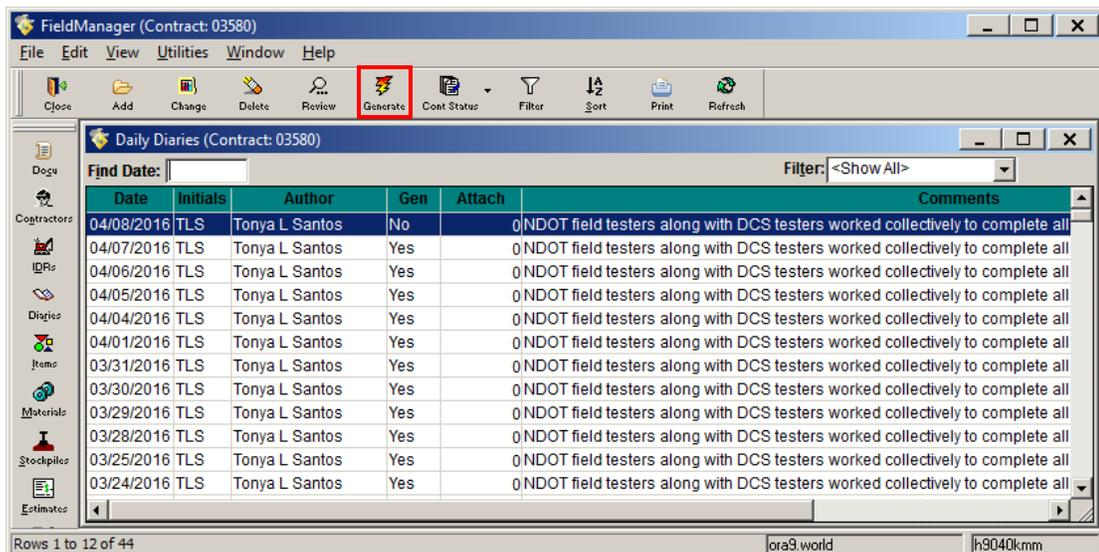

Figure 8-15. Daily Diary List Window
- From the Daily Diaries list window, select one or more Daily Diary records to generate and click **Generate** on the Window Toolbar (Figure 8-15).